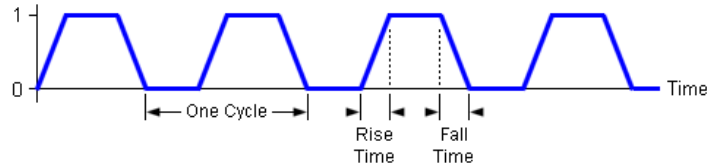

Figure 2: Non ideal clock signal
- **Rising edge detectors** detect the rising edges of the SPI clock. We need it because the SPI clock is not ideal (instant change between '0' and '1'); in other words, it takes some time to change from '0' to '1' and vice versa as can be observed in Figure 2..